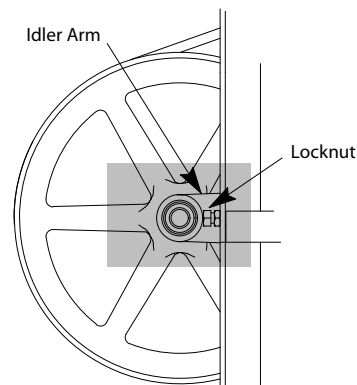

Figure 8 - Locknut Adjustment Screw
6. Check and adjust, as necessary, the tension of the 3 V belts between the drive wheel and the jack shaft sheave. See Figure 8.